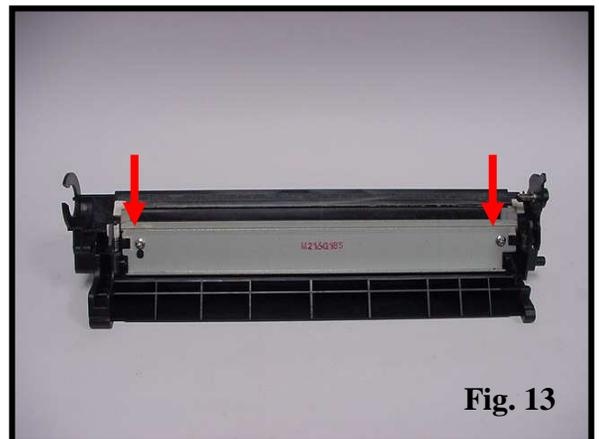

Fig. 13
13. Remove two screws from the wiper blade (Fig. 13).